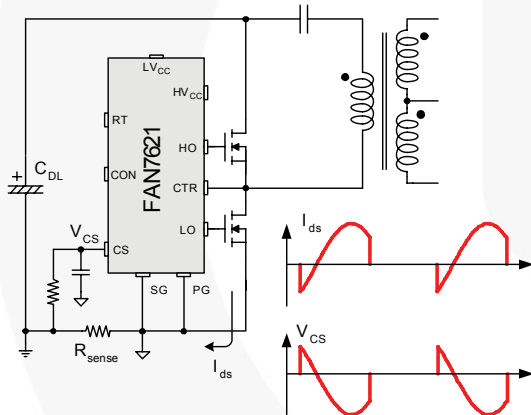
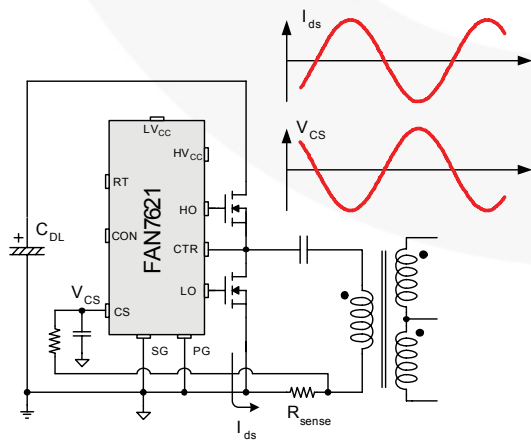

Figure 25. Half-Wave Sensing
Figure 26. Full-Wave Sensing
5.3 Current Sensing Using Resistor: FAN7621 senses drain current as a negative voltage, as shown in Figure 25 and Figure 26. Half-wave sensing allows low power dissipation in the sensing resistor, while full-wave sensing has less switching noise in the sensing signal.